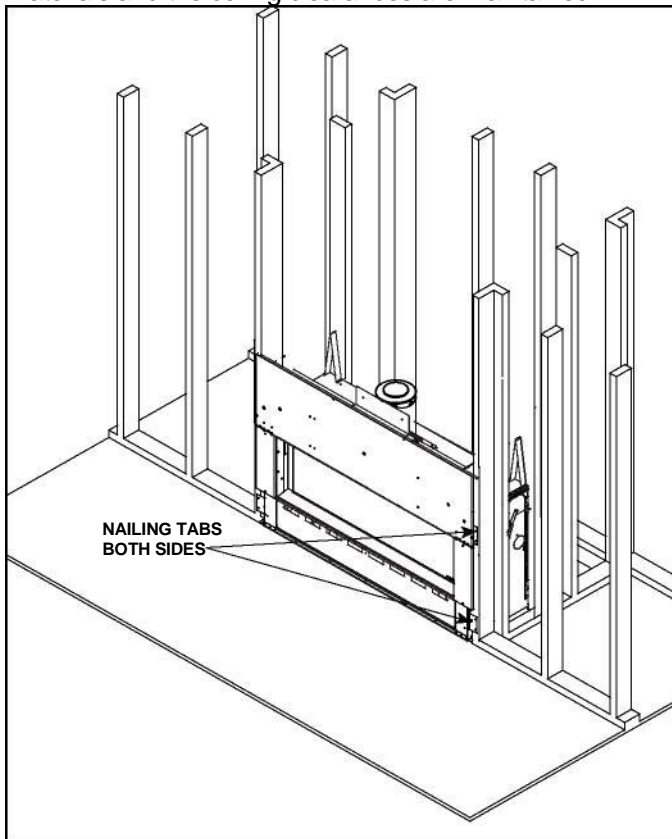

Figure 6.2 Nailing Tab Locations
- Keep nailing tabs flush with the framing. See Figure 6.2.
3. Screw each nailing tab to the adjoining framing material. Ensure that the one inch air space clearance is maintained on the sides and back of the fireplace. See Figure 6.2.